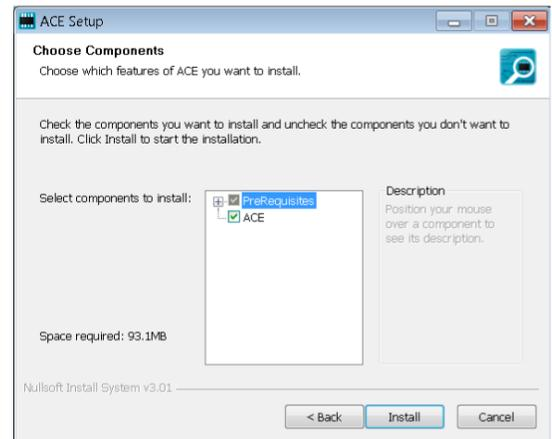

Figure 12. Choose Components
7. Select the **Pre-Requisites** checkbox to include the installation of the SDP-H1 driver. Click **Install** (see Figure 12).